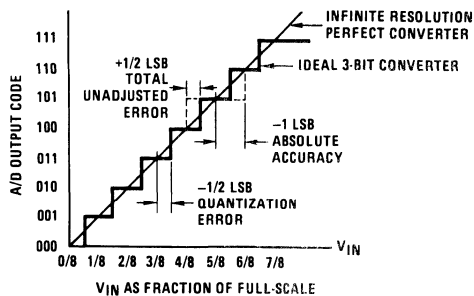
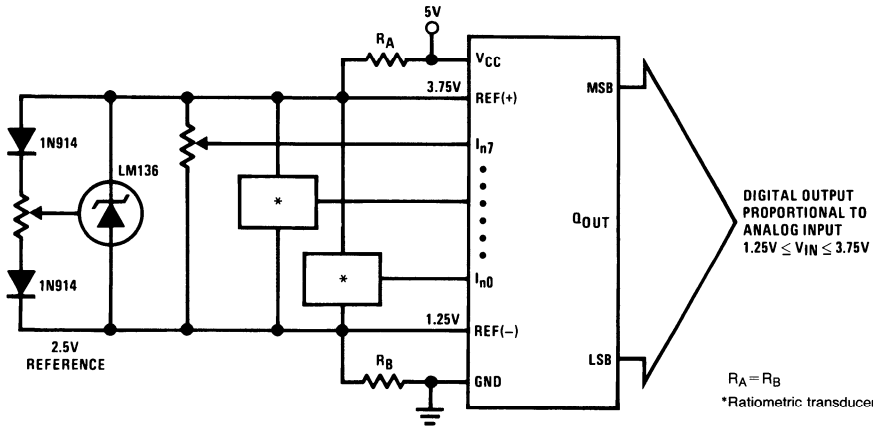

FIGURE 3. 3-Bit A/D Absolute Accuracy Curve
FIGURE 13. Symmetrically Centered Reference
**Note 5:** Total unadjusted error includes offset, full-scale, linearity, and multiplexer errors. See Figure 3. None of these A/Ds requires a zero or full-scale adjust. However, if an all zero code is desired for an analog input other than 0.0V, or if a narrow full-scale span exists (for example: 0.5V to 4.5V full-scale) the reference voltages can be adjusted to achieve this. See Figure 13.
The top and bottom ladder voltages cannot exceed  $V_{CC}$  and ground, respectively, but they can be symmetrically less than  $V_{CC}$  and greater than ground. The center of the ladder voltage should always be near the center of the supply. The sensitivity of the converter can be increased, (i.e., size of the LSB steps decreased) by using a symmetrical reference system. In *Figure 13*, a 2.5V reference is symmetrically centered about  $V_{CC}/2$  since the same current flows in identical resistors. This system with a 2.5V reference allows the LSB bit to be half the size of a 5V reference system.